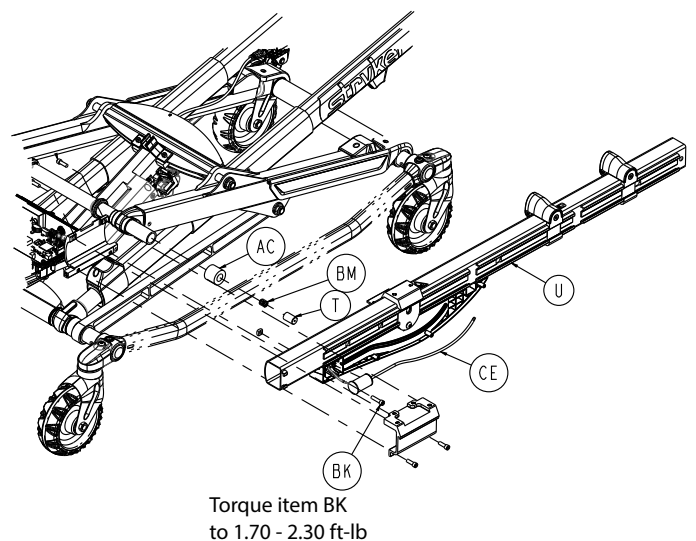

Figure 104 – Remove the slider magnet assembly
9. Unplug the MTS sensor assembly (CE) (Figure 104).
10. Using a T30 Torx driver, remove the socket head cap screw (BK) from the outer rail assembly (U) (Figure 104). Save the screw.
11. Remove the slider magnet assembly (T), slider roller (AC), and compression wire (BM) (Figure 104). Discard all parts.